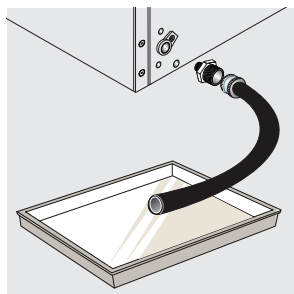

Figure 1D
- Place a shallow pan under the drain tube. Defrost water will drain out. Check pan occasionally so water does not overflow. A 1/2 inch garden hose adapter can be used to drain the freezer directly into a floor drain. If your model is not equipped with an adapter, one can be purchased at most hardware stores (see figure 1D). Replace the drain plug when defrosting and cleaning are completed. If the drain is left open, warm air may enter freezer.